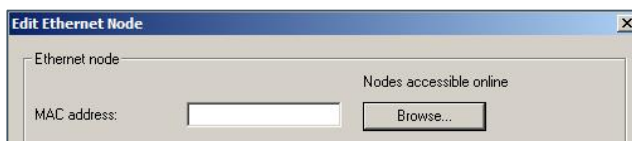

Figure 68: Search for accessible nodes online
- 3) Click **Browse...** for accessible nodes online (see: Figure 68: Search for accessible nodes online).